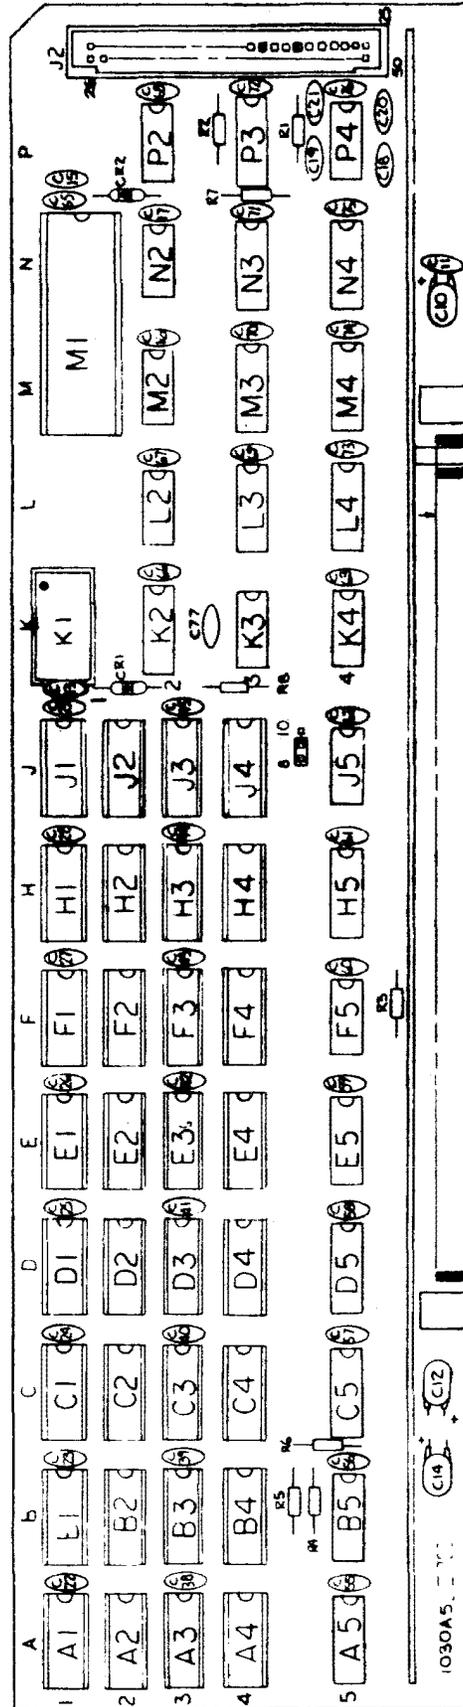

Fig. 8 — Expanded RAM Board
- (g) Using the top of the board as a reference, insert the eight RAM chips contained in the option kit into the first empty horizontal row of sockets on the board. Refer to Fig. 8.